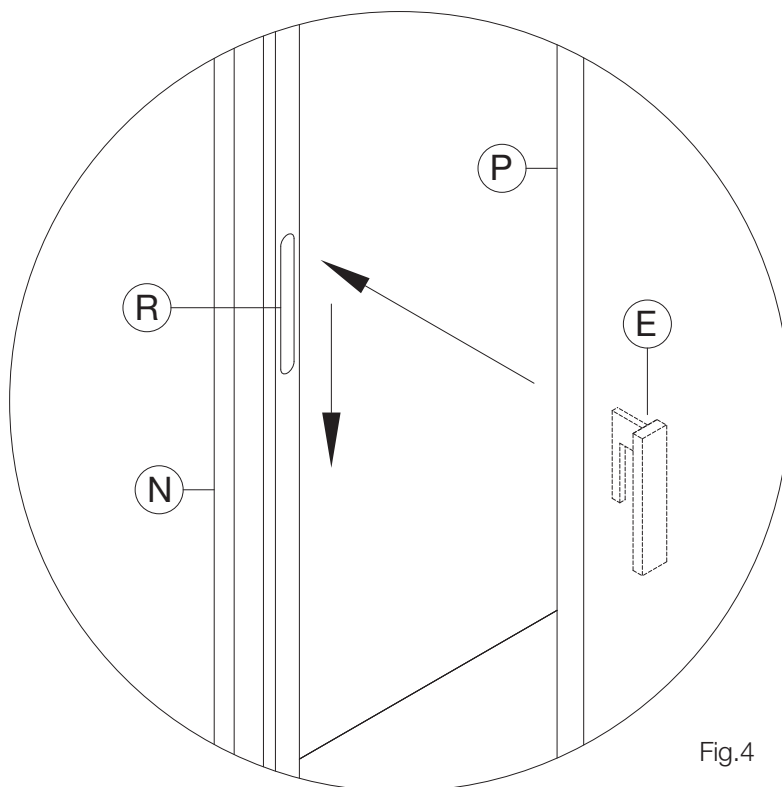

Fig.4
Applicare l'anta (P) alle guide di scorrimento (N) agganciando i n°4 ganci (E) alle asole (R) ricavate sulle guide di scorrimento (N) (fig.4).
Fix the door (P) on the sliding guides (N) hanging the 4 hooks/E/ into the loops (R) which are present on the sliding guides/N/. (fig.4)
Die Türe (P) an den Gleitschienen (N), durch die Haken (E) an den Ösen/R/ die sich in den Gleitschienen (N) befinden. (Abb.4)